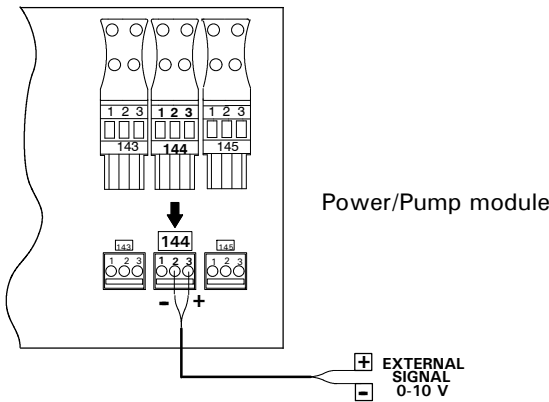

Fig. 45
1. Connect the external 0-10 V signal to plug 144 located in the Power/Pump module (shown in Fig. 45).